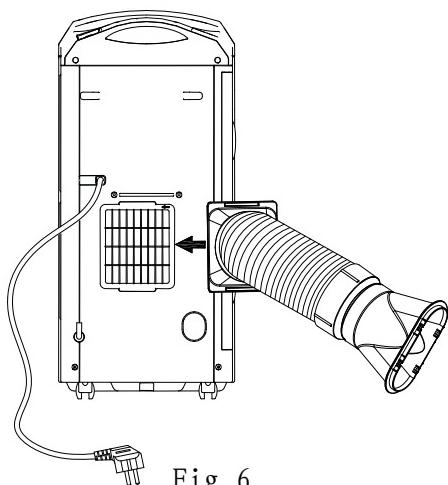

Fig 6
1) Fix the square end of the exhaust dust to the exhaust terminal of the unit. (Fig.6)